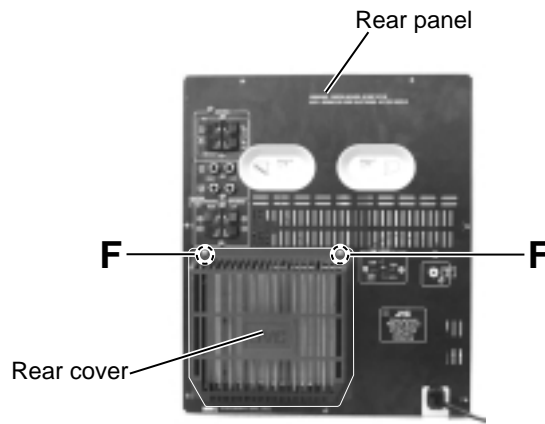

Fig.12
■ Removing the rear cover, the rear panel, the voltage selector and the video board (See Fig.12 to 15)